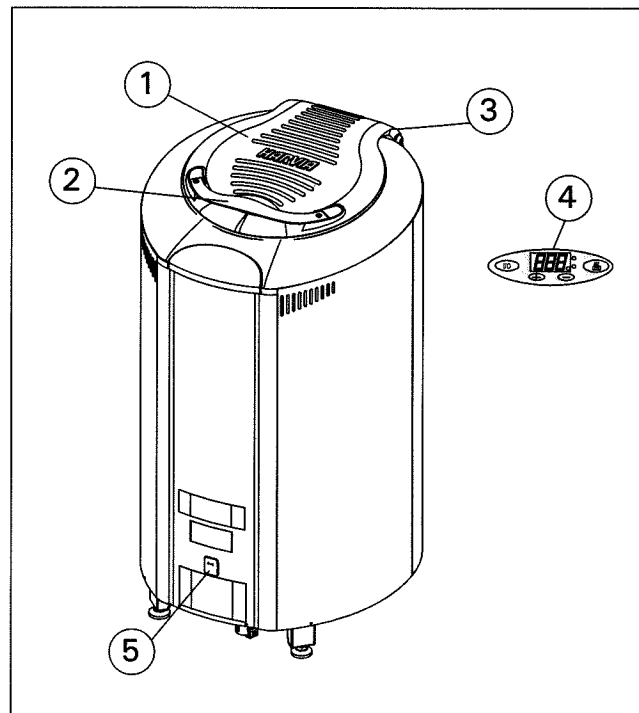
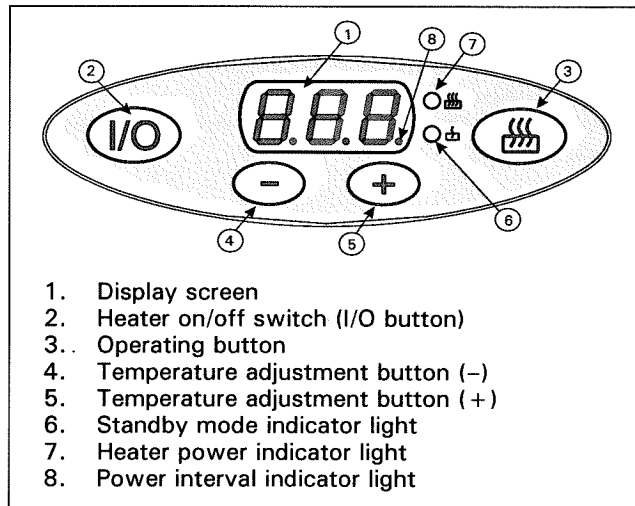

Figure 1. Heater parts
Figure 2. Control panel
2. Handle to safely open and close the cover (fig. 1).
The I/O button is used to switch the heater heating elements on and off. For this to happen, the electric switch must be switched on (see figure 1). The indicator light burns under the I/O button to indicate standby mode.
When the operating button is used to set full heater capacity (HI), the heater temperature is set to 500 °F (260 °C). This temperature cannot be set using the temperature adjustment buttons 4 and 5 (fig. 2). If the heater cover is closed while the heater operates at full capacity, the pre-set temperature of the stone space 500 °F (260 °C) can be achieved more quickly.
The electronics of the heater are switched on and off using the small electric switch with a swing mechanism I in front of the heater (fig. 1). When
When the heater is switched on for the first time after the stones have been put in place, it should be run at full capacity (see chapters 1.5.1. and 1.5.2.) the cover 1 open (fig. 1). The big stone space needs at least two hour-long heating periods at full capacity to ensure that the temperature of the chamber rises high enough. When the heater is switched on for the first time, both the heater and the stones emit odour. To remove this, the sauna room needs to be efficiently ventilated. These actions should also be taken when stones are rearranged or added to the heater.
To switch the heater on, press the **I/O** button. To indicate that current has been connected to the heating elements, the display shows the message **LO** (standby power). In addition, indicator light 6 (fig. 2) is lit up. The temperature of the stone space can be set to a maximum of 500 degrees Fahrenheit (260 degrees Celsius) by pressing the **+** button 5 (fig. 2). The minus button 4 (fig. 2) is used to lower the temperature if it has been set too high.
The electric power consumption of the heater can be monitored using indicator lamp 8 (fig. 2). See the section “Display screen.”
To switch on to full capacity, press the operating button 3 (fig. 2) once. The display screen 1 (fig. 2) indicates that the **HI** state (= full heater capacity) is in use. In the **HI** state, the stone space temperature increases towards the set value of 500 °F (260 °C). Full capacity is switched on for only one hour at a time, after which the heater automatically switches to the **LO** state with indicator light 6 burning (fig 2). After initial heating, the heater cover must be closed. If the stone chamber seems to emit odours, the cover can be left open for a while as the heater operates at full capacity (**HI**).
When the heater cover 1 (fig. 1) is opened, the air flowing through the hot stones and the heating elements begins to heat up the room. To ensure that the thermal energy stored in standby mode remains in the heater stones despite the cooling effect of air currents and the water thrown on the stones, the heater power should be switched on during bathing using the operating button 3 (fig. 2). “**HI**” will be displayed on the screen for a while as an indication of the higher power and the indicator lamp 7 glows (fig. 2).
- the standby heat is in the LO position and the indicator light 6 is burning (fig 2).